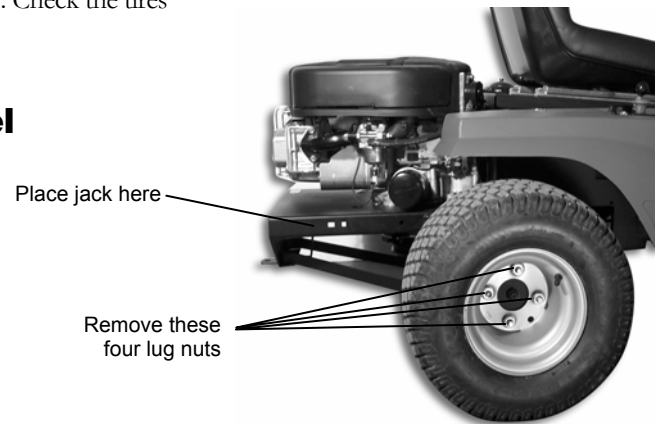

Figure 26. Rear wheel
2. Jack up the mower. Place the jack under the frame just behind the rear wheel. Place a block of wood under the opposite corner's front tire (*Figure 26*).